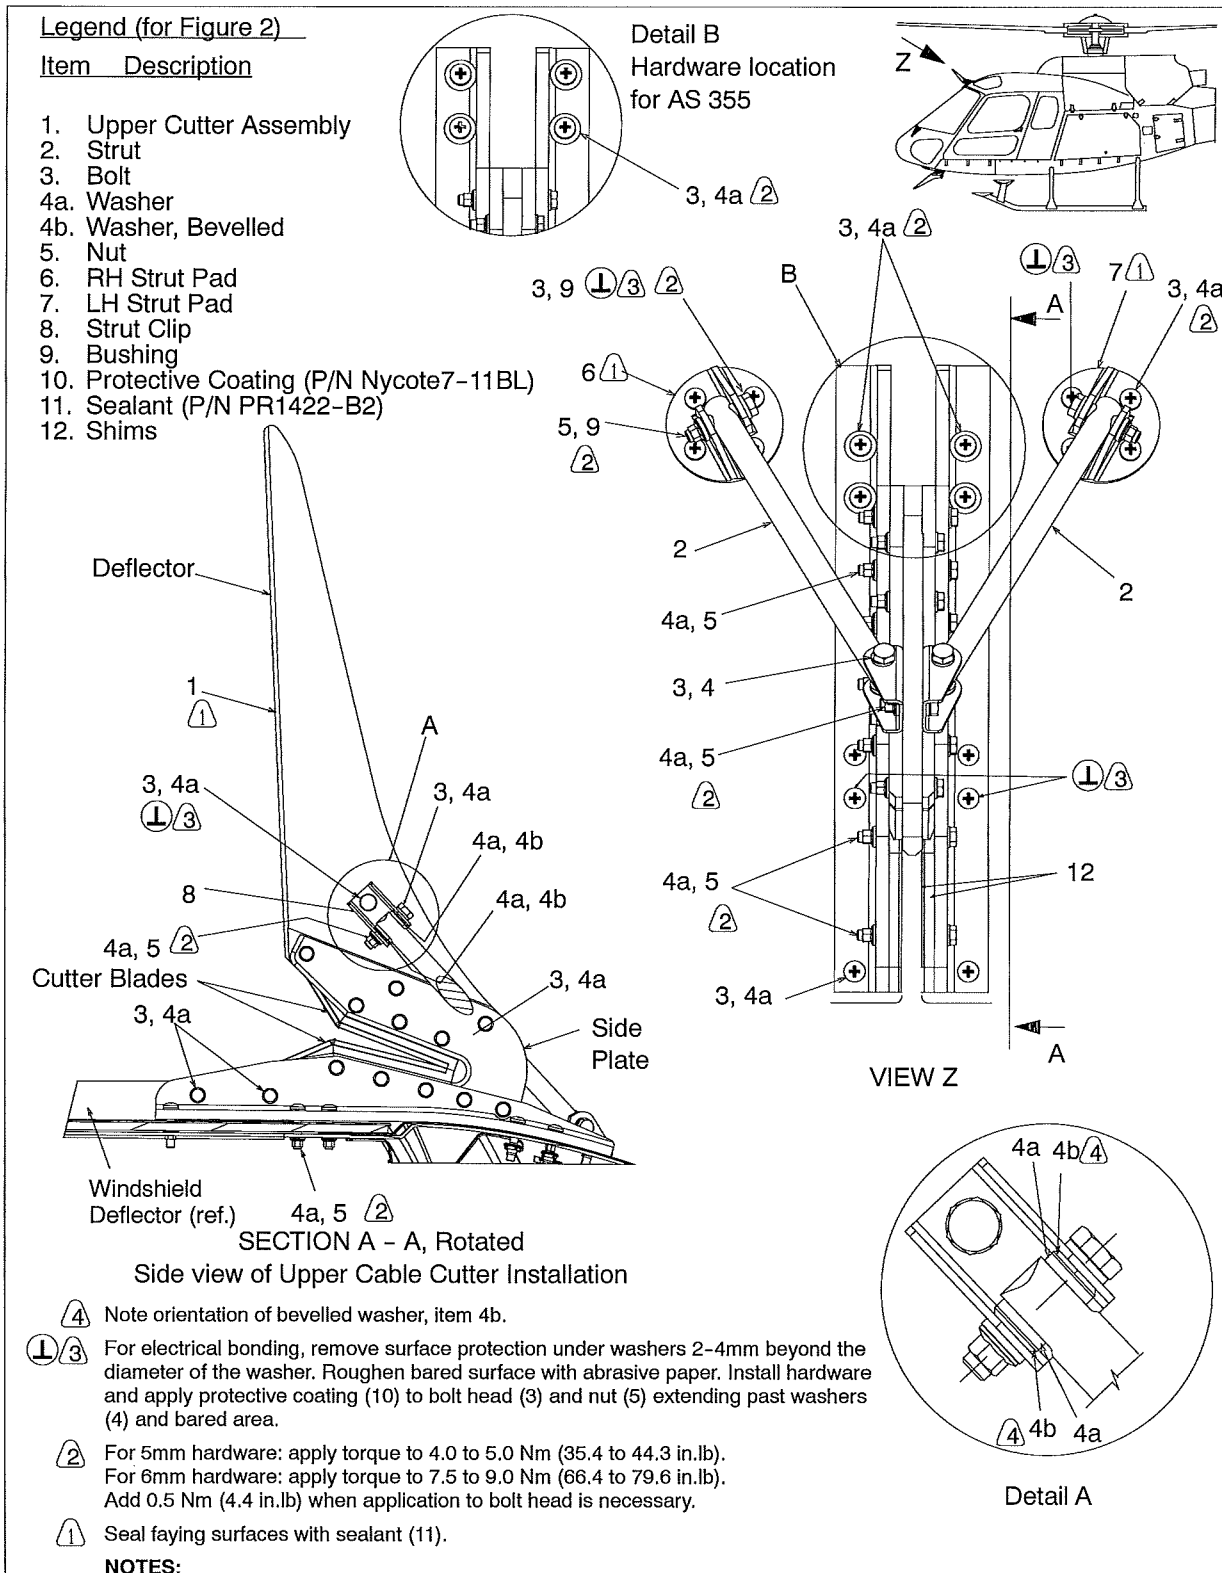

Figure 2 Upper Cutter Assembly Detachable Provisions
**Installation Procedure (Refer to Figures 2, 3 and 4)**
3. Tighten all hardware to correct torque values, refer to Figures 2, 3 and 4.